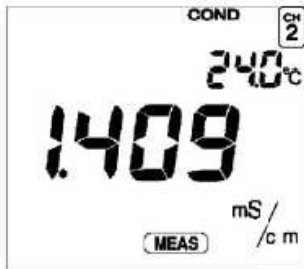

Figure 10
1. From Measurement mode, press the MODE button until you're in COND measurement mode (fig. 10).